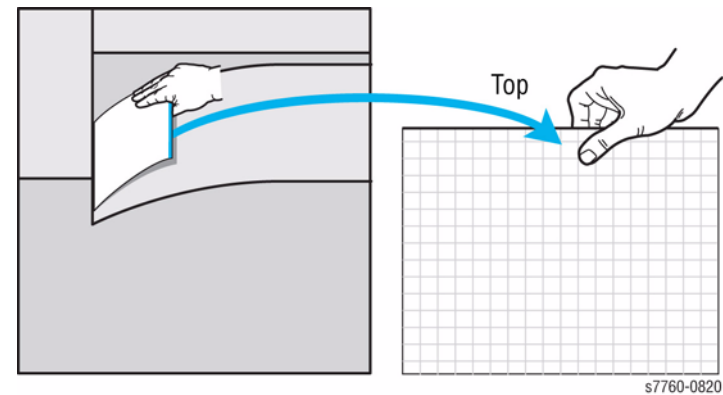

Figure 1 Grid 1-Dot Pattern Orientation
- a. This print provides the relative error between the C and MYK scan lines. Always indicate which edge of the print comes out of the printer first to be certain which way is Left/Right or Up/Down (refer to **Figure 1** Grid 1-Dot pattern orientation for A-size paper.) Measure the distance (in millimeters) between the vertical lines, with the Cyan line being the reference line.